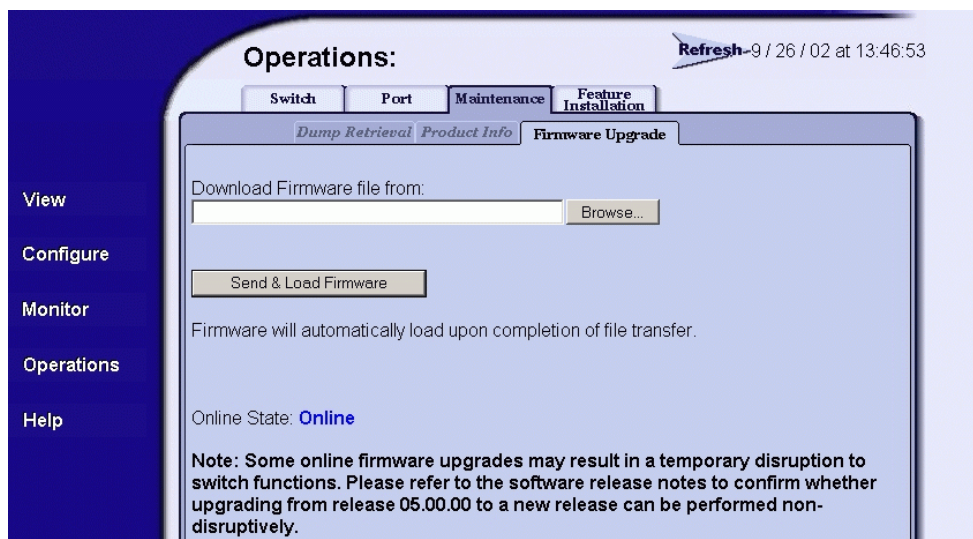

Figure 4-58 Operations Panel (Maintenance Page with Firmware Upgrade Tab)
2. Click the *Maintenance* and *Firmware Upgrade* tabs. The *Maintenance* page displays with the *Firmware Upgrade* tab selected (Figure 4-58).